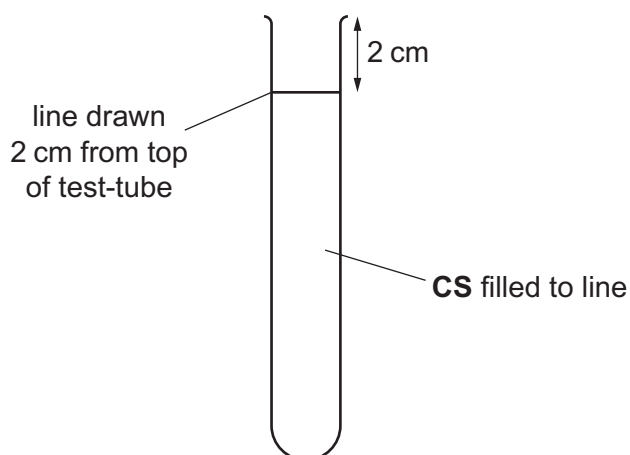

Fig. 1.2
5. Draw a line 2 cm from the top of a clean, dry test-tube, as shown in Fig. 1.2.
6. Put **CS** into this test-tube up to the mark, as shown in Fig. 1.2.